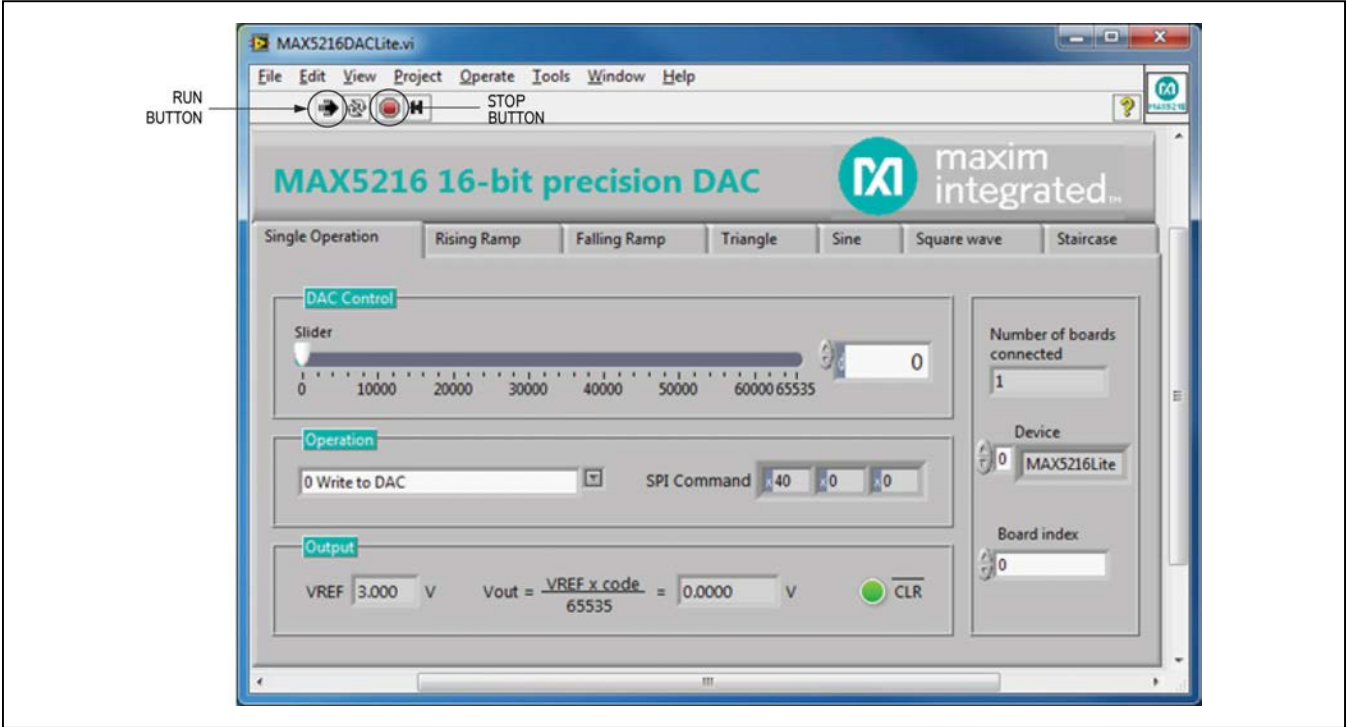
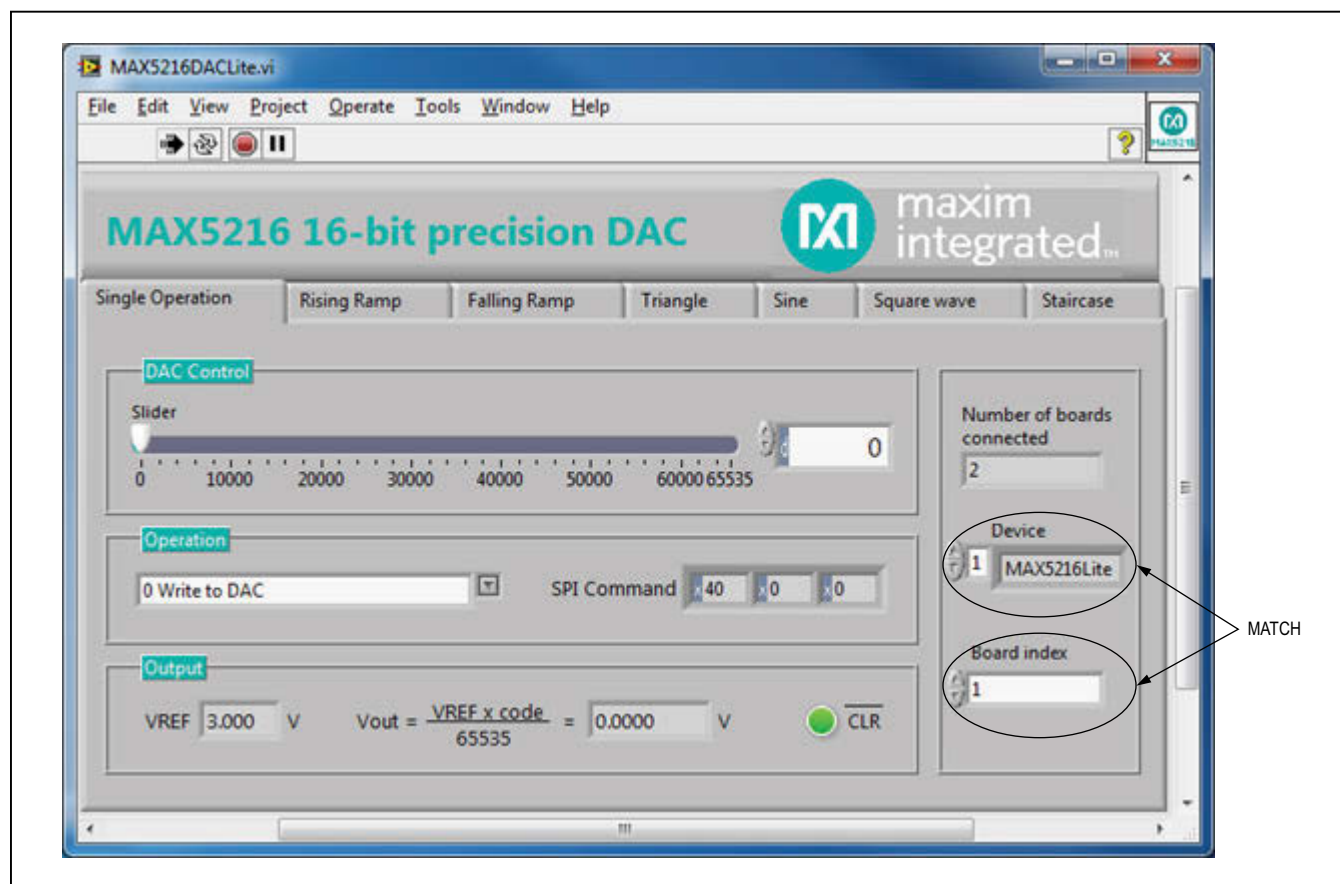

Figure 2. MAX5216DACLite EV Kit (Single Operation Tab)
Figure 3. Select the Board Index in the System with the Multiple Boards
- 2) Run the MAX5216DACLite.exe program. The application's GUI appears, as shown in Figure 2.
The **Single Operation** tab sheet (Figure 2) is active by default. The application checks all the boards with the USB VID/PID 0x0B6A/0x1234 that connected to the PC and indicates them on the right side of the GUI. Up to 16 boards can be connected to the system. Each board has its own unique board index. Select the appropriate board index in the **Board Index** spin box (Figure 3).